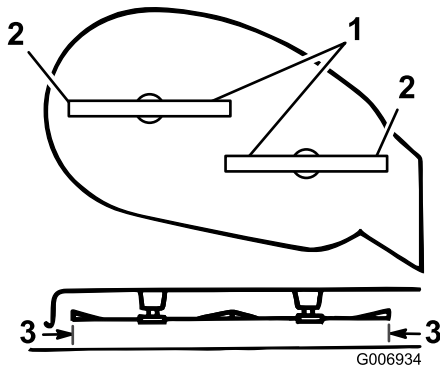

Figure 39
5. Carefully rotate the blades side to side (Figure 39).
6. Measure between the outside cutting edges and the flat surface (Figure 39). If both measurements are not within 5 mm (3/16 inch), adjust them; continue this procedure.